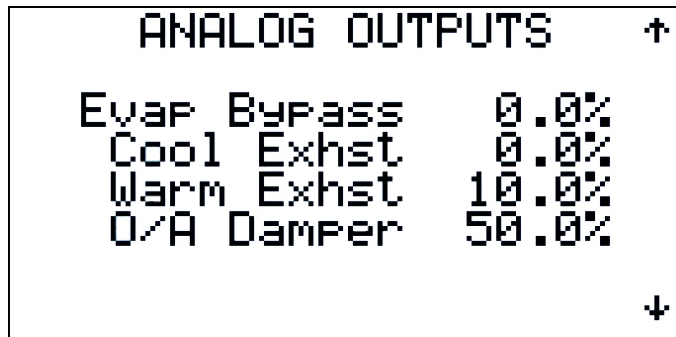

Figure 82
2.3.3.3.4 Analog Outputs (Figures 82 - 83)